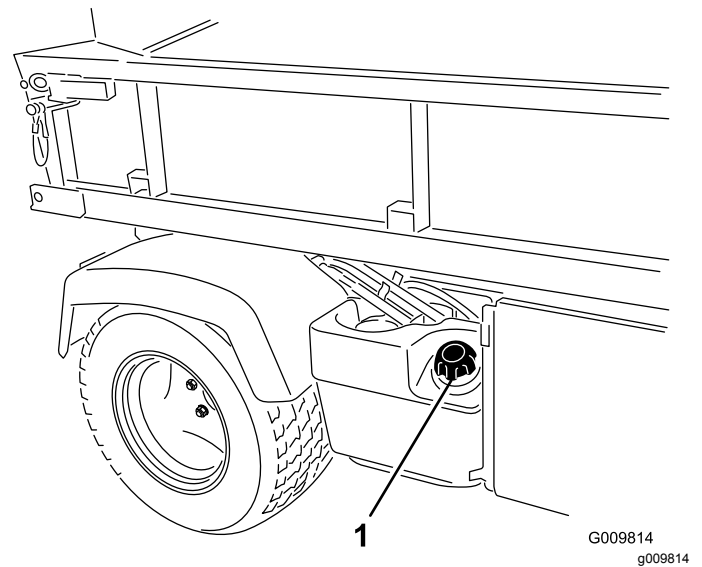

Figure 20
2. Remove the fuel-tank cap (Figure 20).